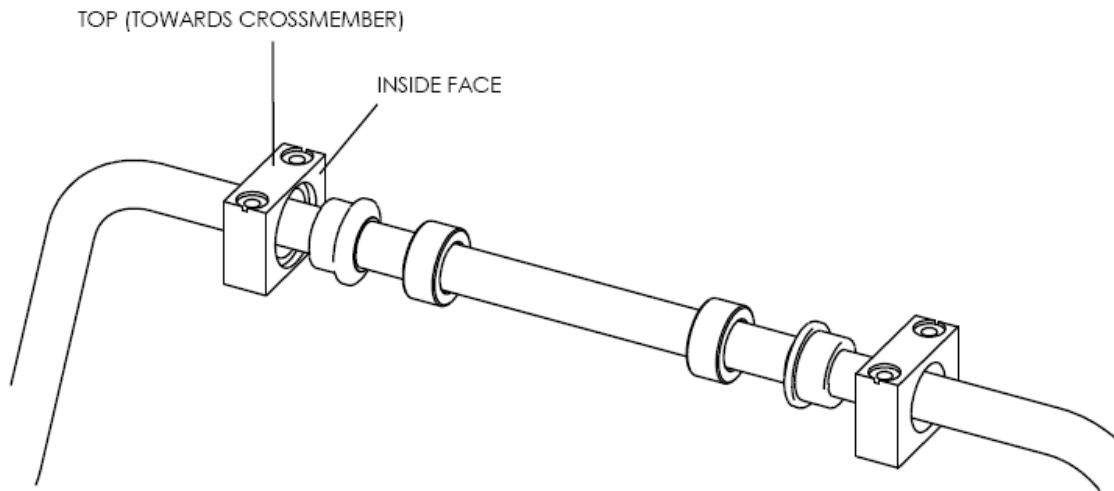

Figure 4- Installing Components on Sway Bar
8. Slide on the 6 components that go on the sway bar—the mounting blocks, rubber bushings, and locking collars—in the order shown in **Figure 4**.